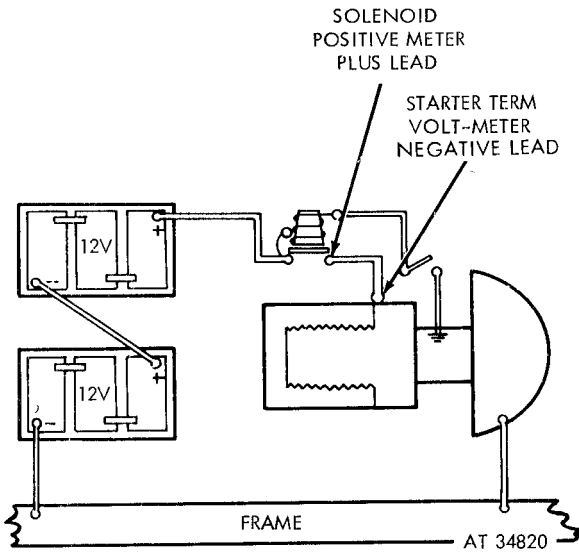

Figure 2-32. Starter solenoid-to-starter connector test.
e. Starter Solenoid-to-Starter Connector Test (Fig. 2-32).
(1) Leave the voltmeter leads connected to the tester.
(2) Connect the positive (+) voltmeter lead to the terminal at the solenoid relay starter connector side.
(3) Connect the negative (-) voltmeter lead to the terminal of the connector on the starter motor housing.
(4) Place the voltage selector switch in the 50-volt position, close the starter switch with the ignition switch in the OFF position, and read the voltmeter.
(5) If the voltage reading is less than 20 volts, change the selector switch to the 20-volt position and repeat (4) above.
(6) If the reading is less than 10 volts, change the selector switch to the 10-volt position and repeat (4) above.
(7) If the reading is less than 1 volt, change the selector switch to the 1-volt position and repeat (4) above.
(8) The maximum allowable voltage loss is 0.2 volt.